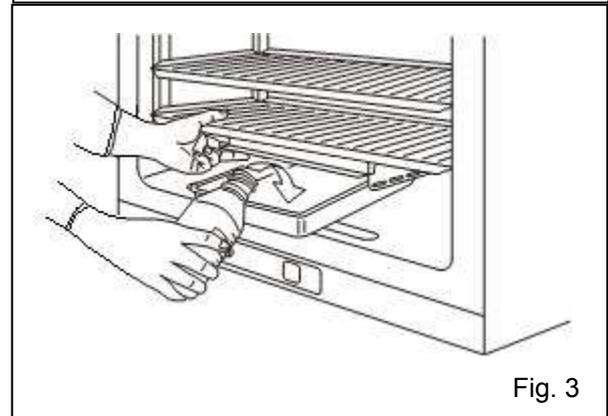

Fig. 3
4. Lift the humidifying pan cover off from the pins at the rear side. (Fig. 3)
4. To install the side support, confirm the direction of fixing holes as shown in Fig. 3.
5. Return the humidifying pan to the chamber and add sterile distilled water (approx. 3 L, preheated to 37 °C). (Fig. 3)